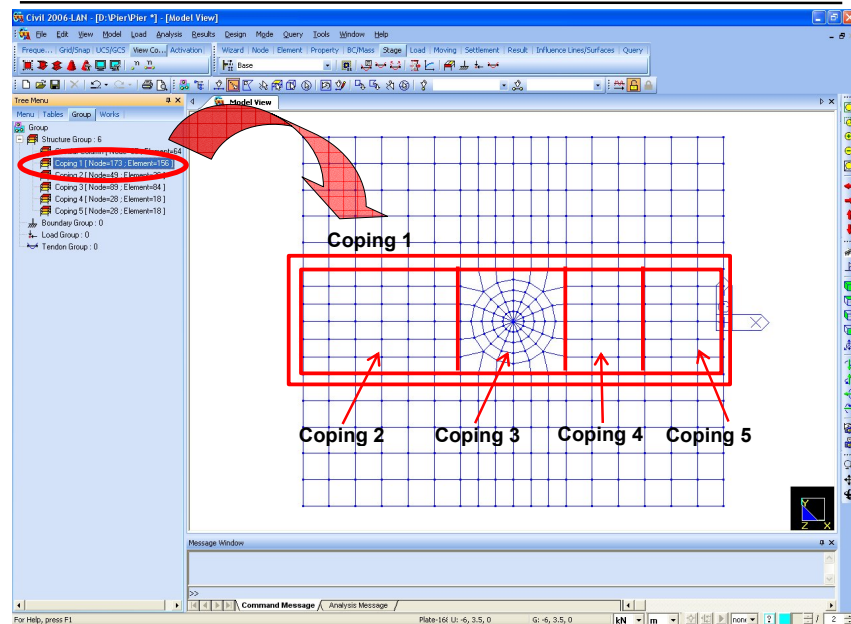

Figure 5.10 Group Definition
Assign group names to different parts to facilitate the selection process during the creation of solid elements (footing, circular column, coping, etc.) extruded from the footing plate. Refer to Fig.5.10 to assign group names by areas.
3. Click  **Select Window** to select the relevant elements as shown in Fig.5.10.